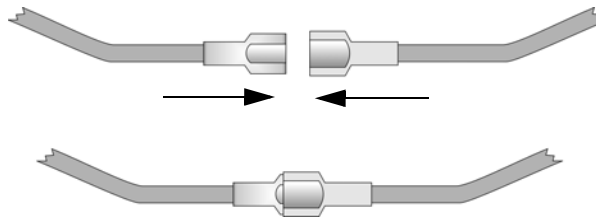

Figure 4.8 Splicing Control panel Battery Cable to RBB Battery Cable Extenders
2. Connect the main control panel battery cables to the battery cable extenders as shown in Figure 4.8.